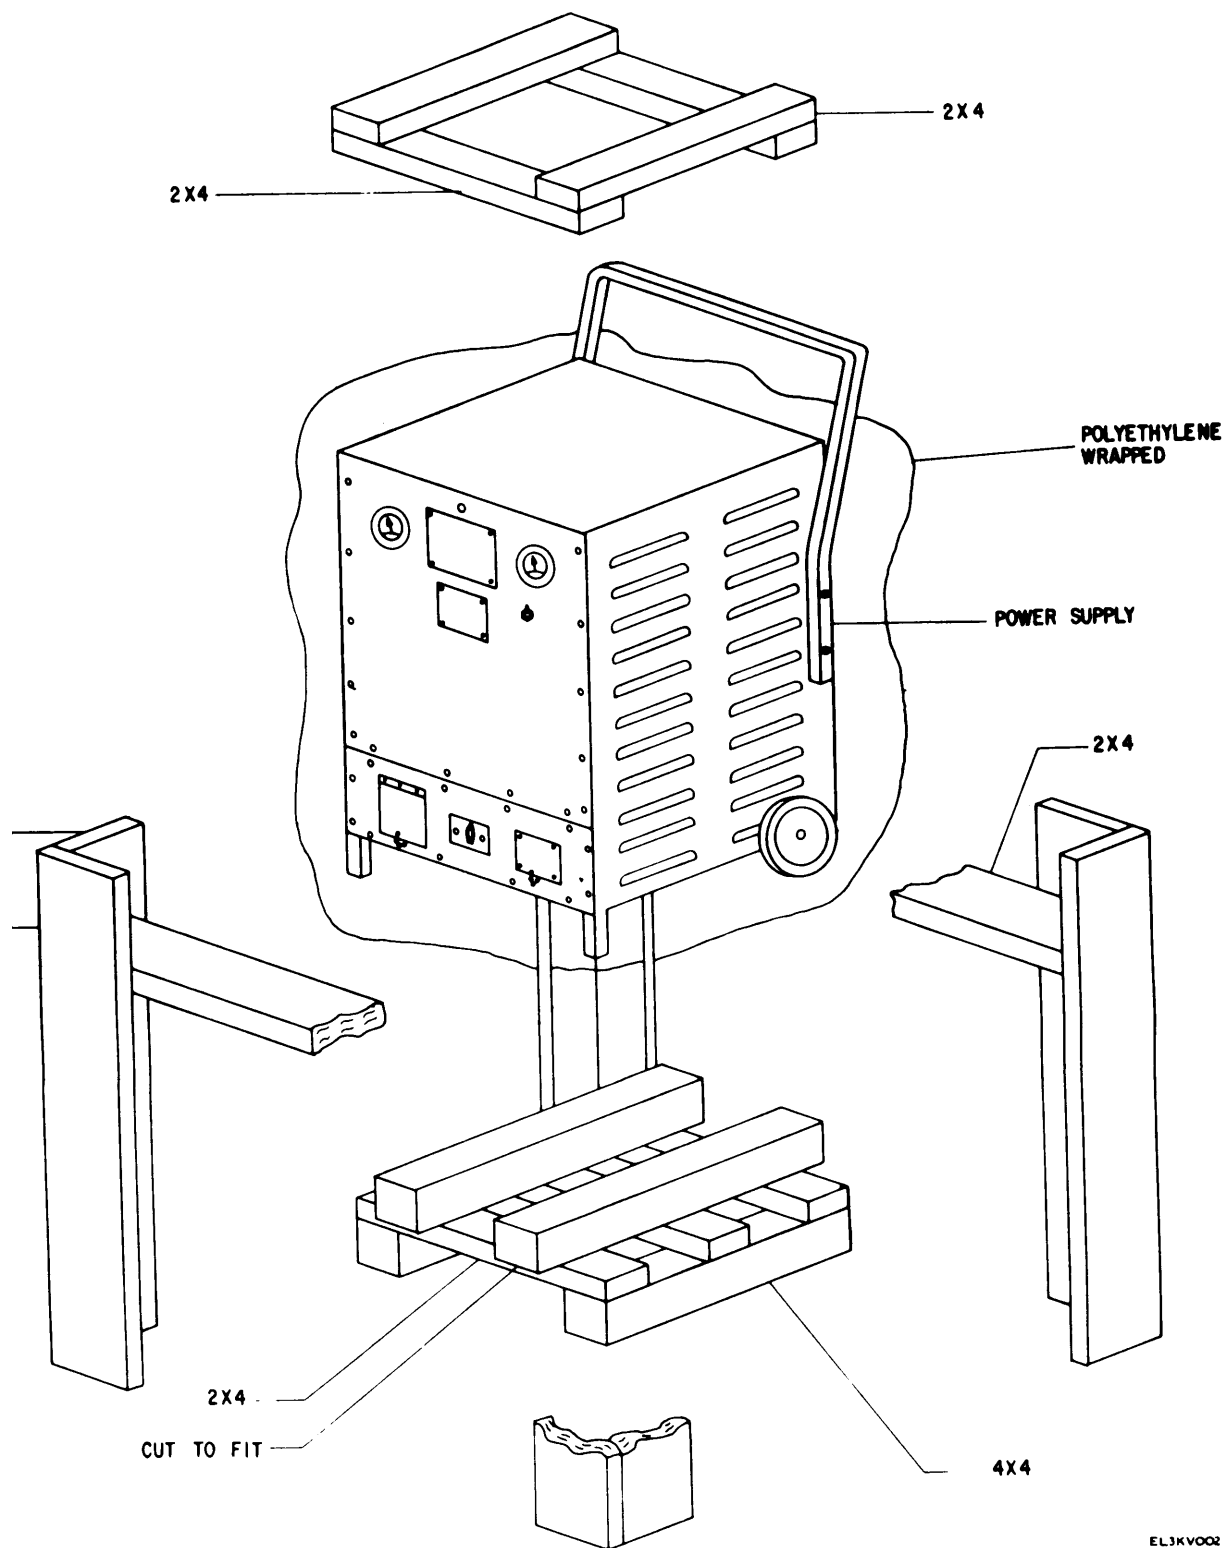

Figure 2-1. Power supply PP-4606C/G packaging diagram.
a. Packaging Data. When packed for shipment, the PP-4606C/G is placed in a plastic protective bag and securely packed in a wooden packing frame. The frame is shown in figure 2-1. The volume is 32 cubic feet and the weight is 400 lbs.